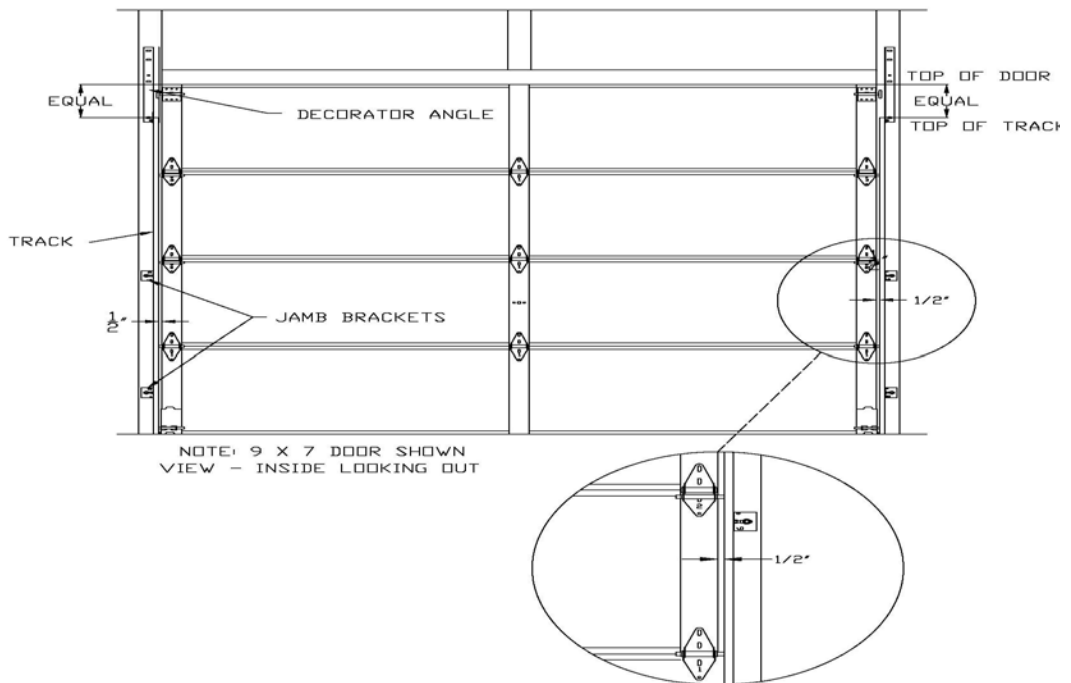

Figure 11
Step 12: Slip the vertical track over the rollers. Maintain 1/2" - 3/4" clearance between the edge of the door and the inside edge of the vertical track. See figure 11.